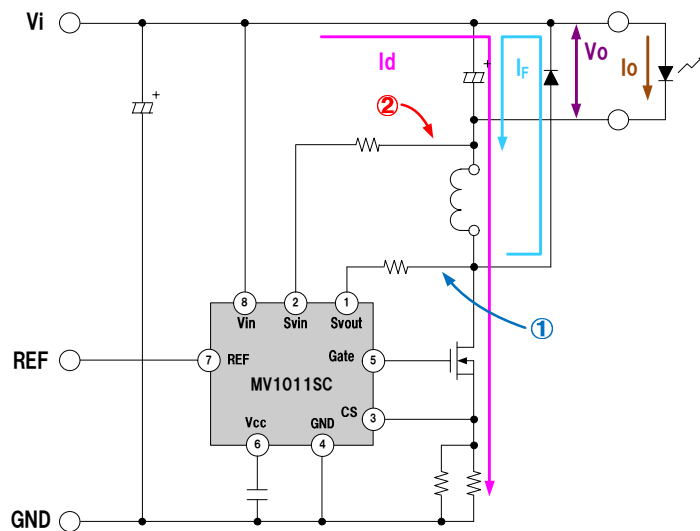
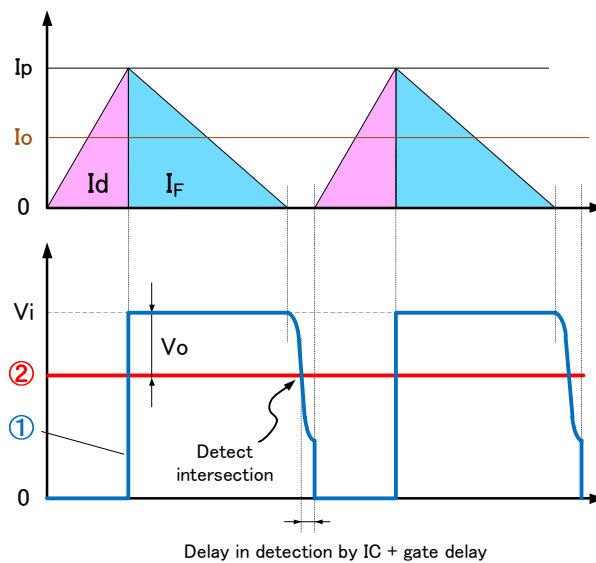

Figure 1 CRM step-down chopper circuit
Figure 2 MOSFET and diode current waveforms of the CRM step-down chopper and voltage waveforms on both ends of the choke
The MV1011SC is a critical conduction mode (CRM) step-down chopper control IC. Figure 1 shows the circuit configuration. Figure 2 shows the waveforms of currents flowing to the MOSFET and the diode, represented by I_d and I_F , respectively. In a general CRM step-down chopper circuit, the MOSFET is turned on after the I_F becomes zero, leaving little recovery current for the diode and lower losses and noises than a PWM circuit. Meanwhile, disadvantageously, the oscillation frequency changes dramatically as the output current (LED current) changes, resulting in poorer dimming characteristics and efficiency.
The MV1011SC detects I_d , converted to a voltage, with the current detection pin (CS pin). When it reaches the CS reference voltage, the MV1011SC turns the MOSFET off (peak current detection). The IC performs CRM control in this way: When the diode current I_F becomes zero, the S_{vout} voltage falls below the S_{vin} voltage, so the IC detects this state (zero current detection) and turns the MOSFET on. The voltages on both ends of the choke (① and ② in Figure 2) are divided with resistors and input to the S_{vin} pin and the S_{vout} pin to achieve CRM operations without auxiliary winding. Additionally, the off-time modulation prevents the frequency increasing during dimming and achieves constant high efficiency and dimming characteristics during deep dimming. (See Section 5 [Dimming characteristics] on page 20.)
Figure 3 shows an example of a starting operation in the Vcc->REF sequence, using the circuit configuration shown in Figure 1.